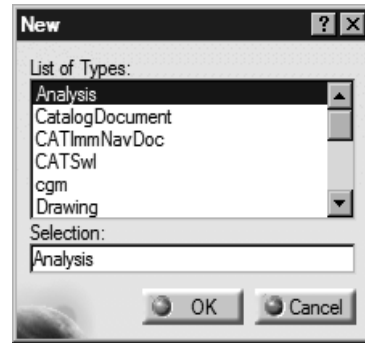

Figure 2-45 The **New** dialog box
1. Choose **File > New** from the menu bar; the **New** dialog box is displayed, as shown in Figure 2-45.